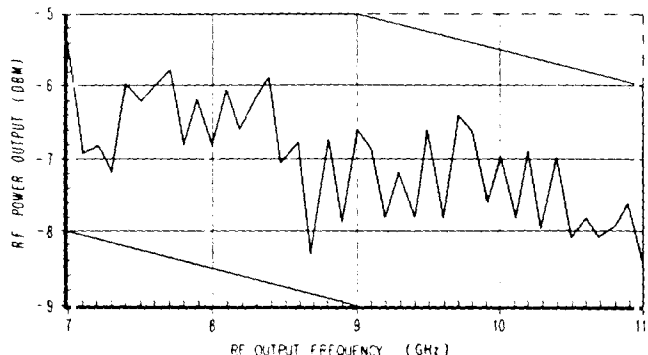

Figure 5-19. Typical Response Curve (620B)
5-93. An initial setting has now been made that will be accurate within approximately  $\pm 5$  dB. To refine this setting and obtain the original calibration accuracy of  $\pm 2$  dB it is necessary to measure the output of the signal generator across the frequency range and construct a graph showing the frequency response of the instrument. Figure 5-19 shows such a graph with a typical response curve after the power output curve has been centered about the -7 dBm reference level. The final adjustment is made by slipping the attenuator dial, while measuring the RF output level at a convenient frequency on the curve, to bring the total power spread to be within the  $\pm 2$  dB limits of the -7 dBm reference level. The limits are indicated by the heavy transverse lines above and below the -7 dBm center line. Proceed as follows:
f. Repeat steps c through e every 200 MHz from 7 GHz to 11 GHz. Plot the resulting data as a response curve such as the one shown in Figure 5-19.